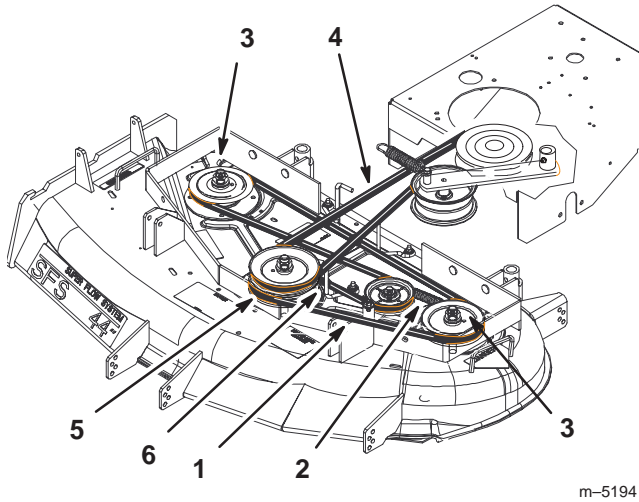

Figure 57
5. Disconnect the idler arm spring to relieve tension on the idler arm and idler pulley, then remove the worn deck belt (Fig. 57).
6. Install the new deck belt around the two outside spindle pulleys, the idler pulley, and in the lower groove of the center spindle pulley (Fig. 57).
7. Connect the idler arm spring (Fig. 57).
8. Adjust deck belt guide an 1/8 in. from belt (Fig. 57).